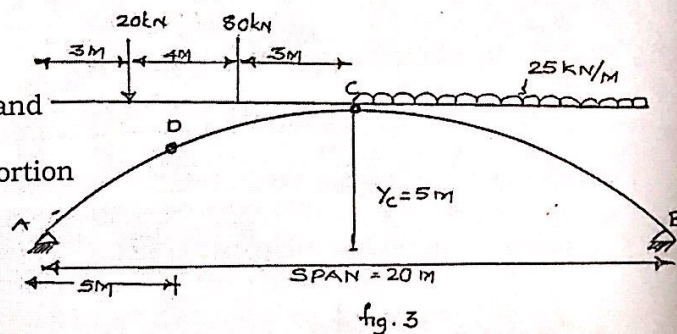

Fig. 3
A Three hinged parabolic arch carried udl as shown in Fig. 3 (10)
Ref. Fig. 3